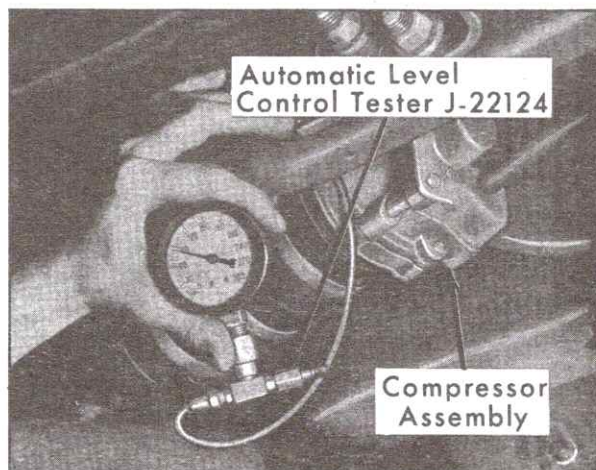

Fig. 4-8 Testing Compressor Output
2. Deflate system through service valve and remove high pressure line at regulator adapter fitting and connect Test Gage, J-22124, Fig. 4-8.